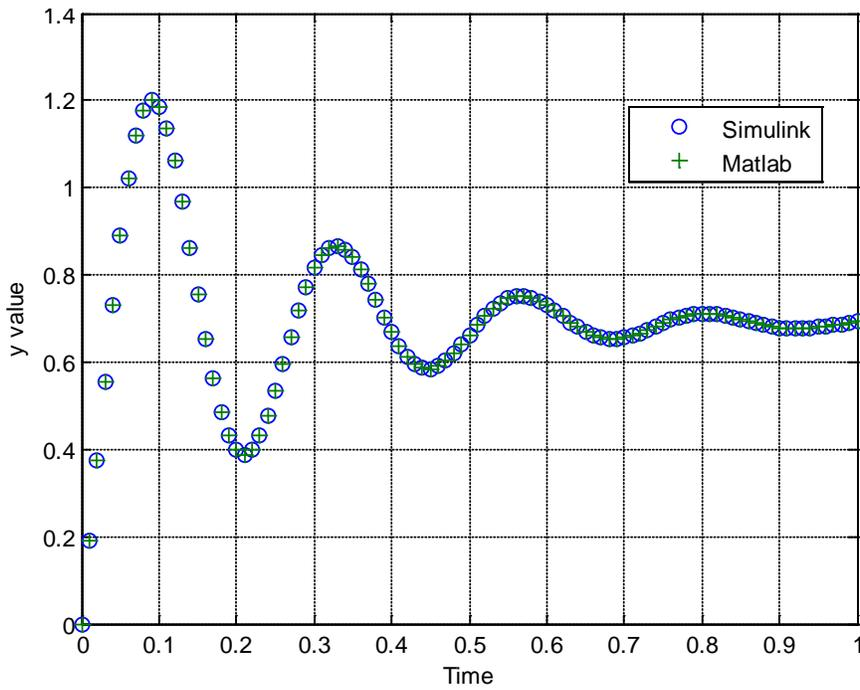

Figure 7. Matlab and Simulink results for PD controller.
5) Modify your simulation to use the proportional+derivative controller, $G_c(z) = \frac{12.8(z-0.653)}{z}$. Your results should look like those in Figure 7. *Include this figure in your memo.*